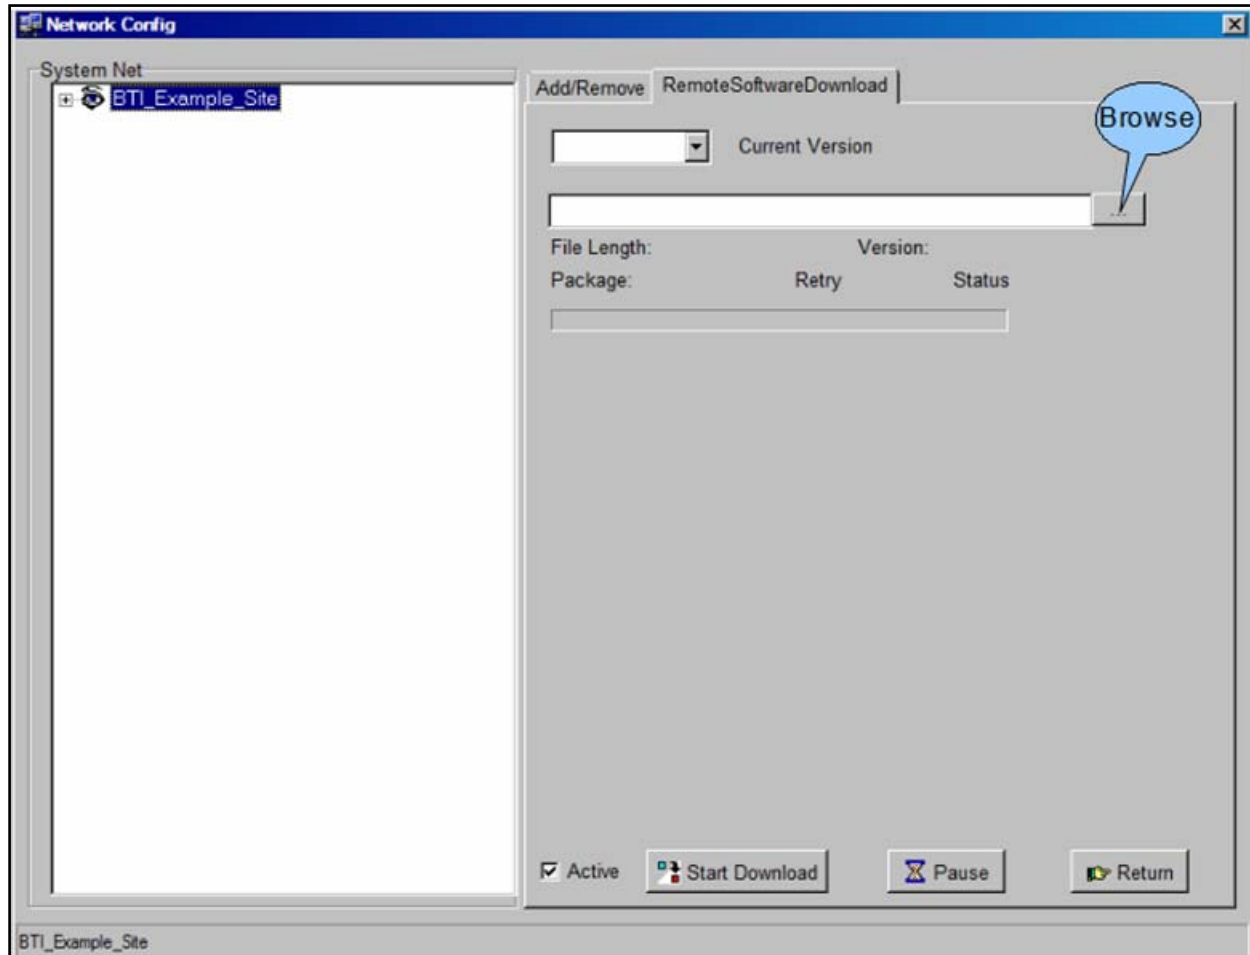

Figure 4-42. Remote Software Download Screen
5. Using the *RemoteSoftwareDownload* interface, **Figure 4-42**, Locate the file by clicking on the browse button.